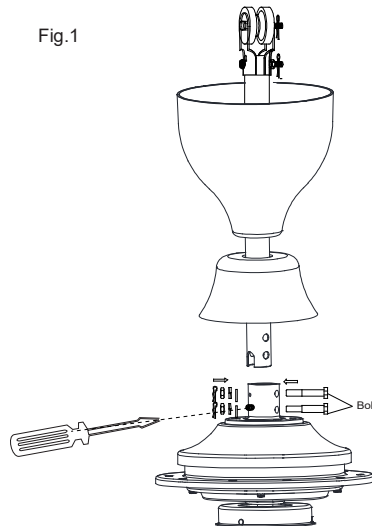

Fig.3
2. Insert the downrod through the canopy and Coupling cover . Align the holes at the bottom of the downrod with the holes in the yoke on top of the fan motor assembly.(Fig.3)
4. Tighten the two screws on top of the fan motor shaft firmly, Slide down the yoke cover.(Fig.3)